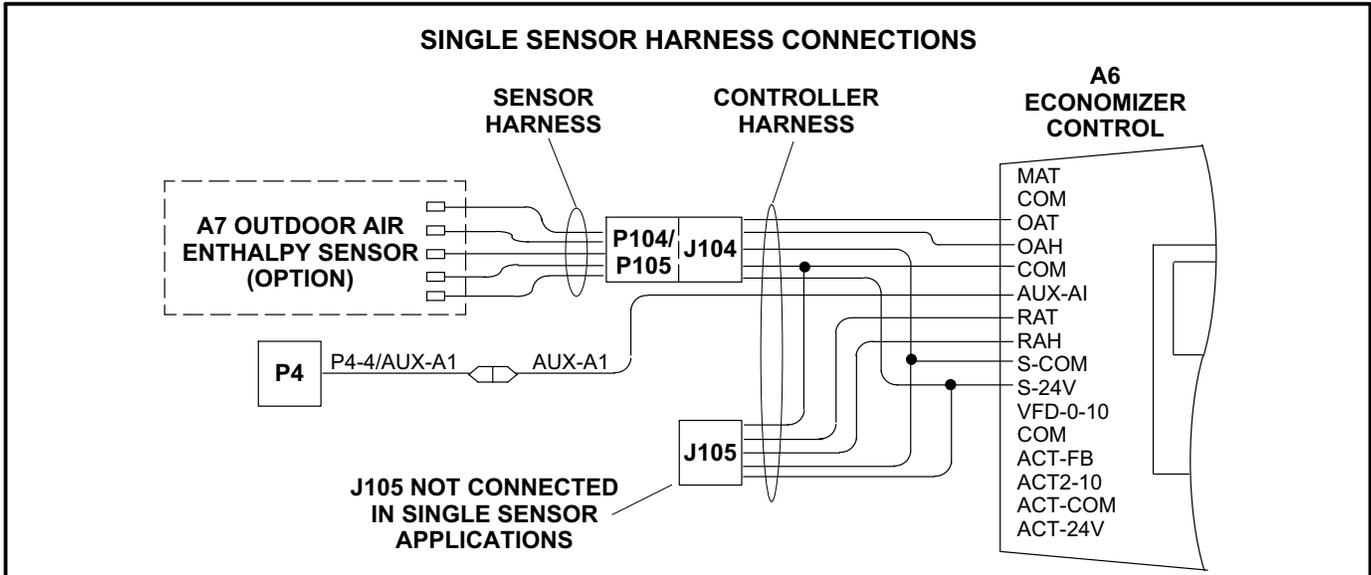

FIGURE 6
Identify harnesses by markings on wires. Refer to figure 6 and 7.
- 3- Connect other end of J104 controller harness into A6 economizer control as shown in figure 6.
- 5- Connect other end of P104/P105 sensor harness into A7 enthalpy control as shown in figure 6.